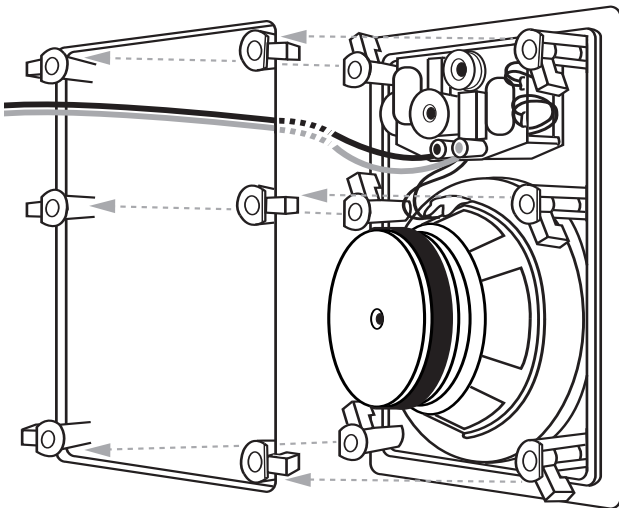

FIG. 5
6. See Fig. 5. With the speaker wire attached to the speaker, slide the speaker up inside the cut-out hole. Center the speaker in the cut-out hole and turn the six locking screws clockwise until the speaker is drawn up snugly to the wall board from behind, clamping the speaker in place. Try to tighten each screw equally. Replace the speaker grill by gently pressing it into place.